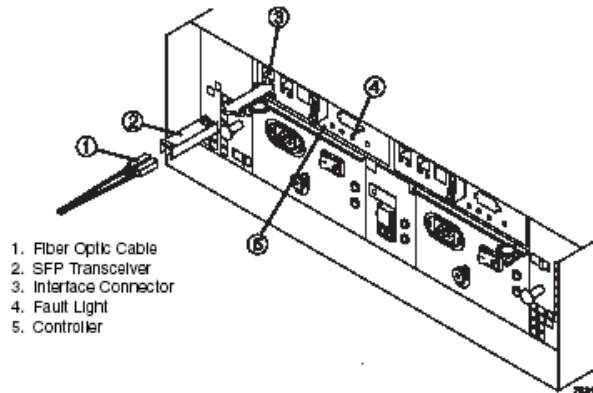

FIGURE 7-9 Removing an SFP Transceiver and fibre Optic Cable
7. Check the Fault lights to locate the failed controller. On the failed controller, the amber fault light will be illuminated. Figure 7-9 shows the location of the fault light.
16. Reconnect the SFP transceivers and attach the host interface cables and drive interface cables to their original locations. Figure 7-9 on page 7-25 illustrates connecting an SFP transceiver.